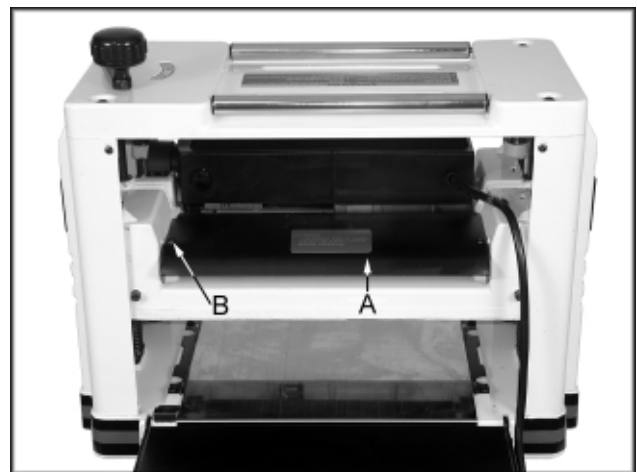

Fig. 2
4. Insert the chip deflector (A, Fig. 2) into position and fasten to the upper frame assembly with two M5 x 30mm screws (B, Fig. 2) and two M5 lock washers.